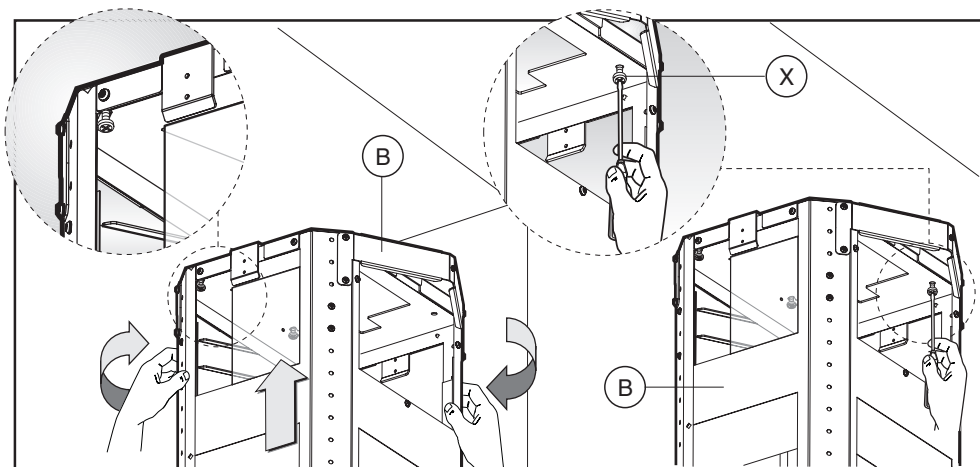

Fig.5
- Take the upper part of the structure **B** (fig.5) and insert the 3 slots onto the 3 screws that are not completely tightened. Rotate slightly to fit (fig.5).